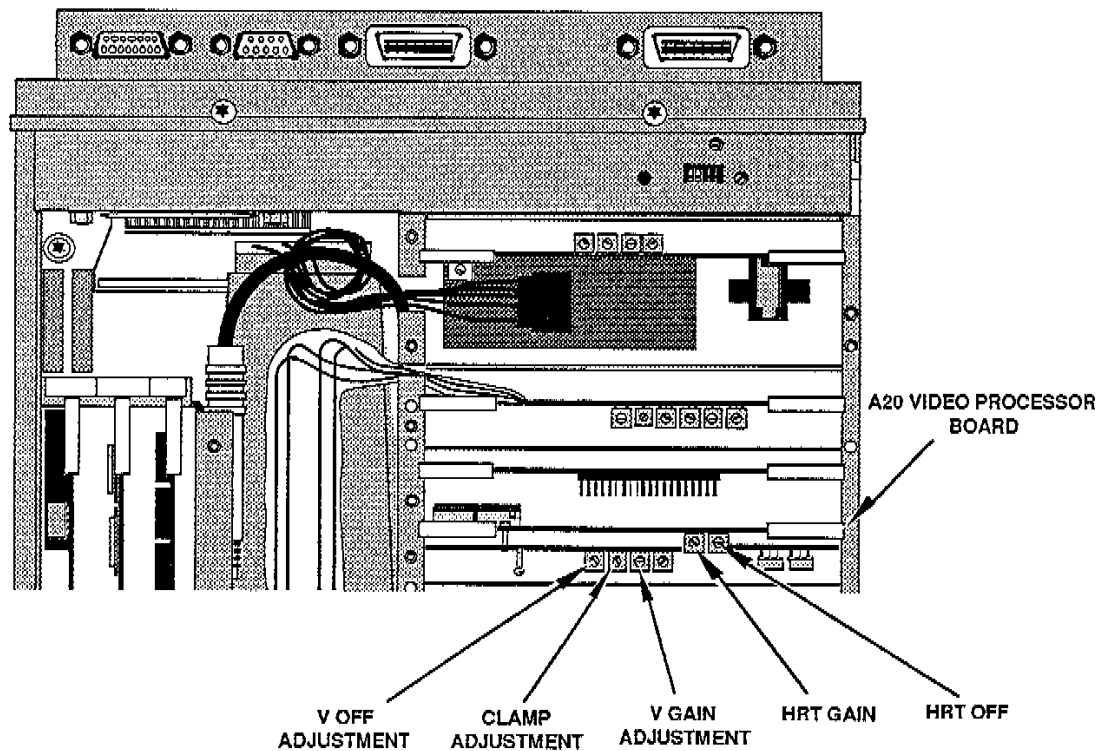

Figure 3-7. Video Processor Board.
2. Adjust the CLAMP adjustment on the A20 Video Processor board (see Figure 3-7) until the real time baseline is aligned with the digitized baseline.
4. Alternately adjust the HRT GAIN and HRT OFFSET adjustments on the Video Processor board (see Figure 3-7) until the real time display is positioned horizontally, directly over the digitized display.
4. Alternately adjust the V GAIN and V OFF adjustments on the A20 Video Processor board (see Figure 3-7) until the real time display is positioned vertically, directly over the digitized display.